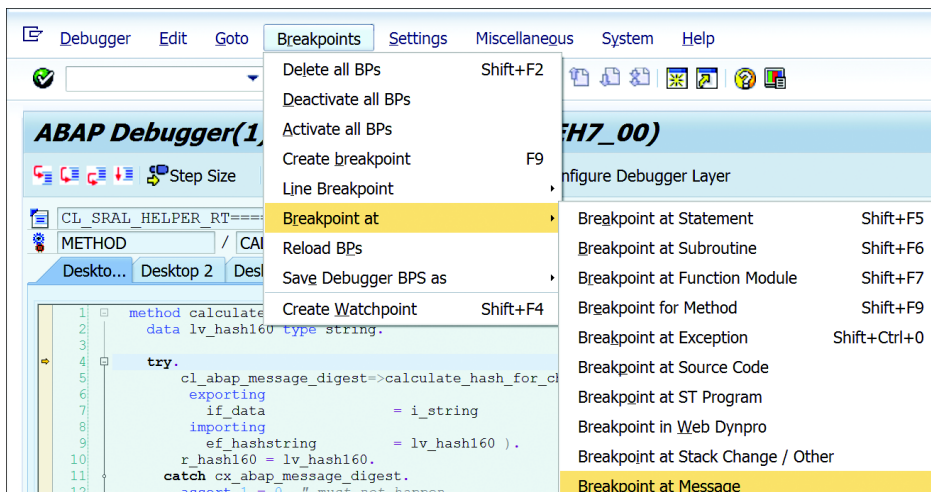

Figure 17.24 Setting Breakpoint
- ▶ Use the BREAKPOINT AT option (see Figure 17.24) in the debugger to go directly to a statement or a procedure call if you feel a certain statement or a procedure is causing the issue.
- ▶ Want to check why a particular error message or exception is being thrown by the program? Simply place the breakpoint for that message or exception using the BREAKPOINT AT menu (see Figure 17.24), and monitor the program variables to identify what is triggering that exception.